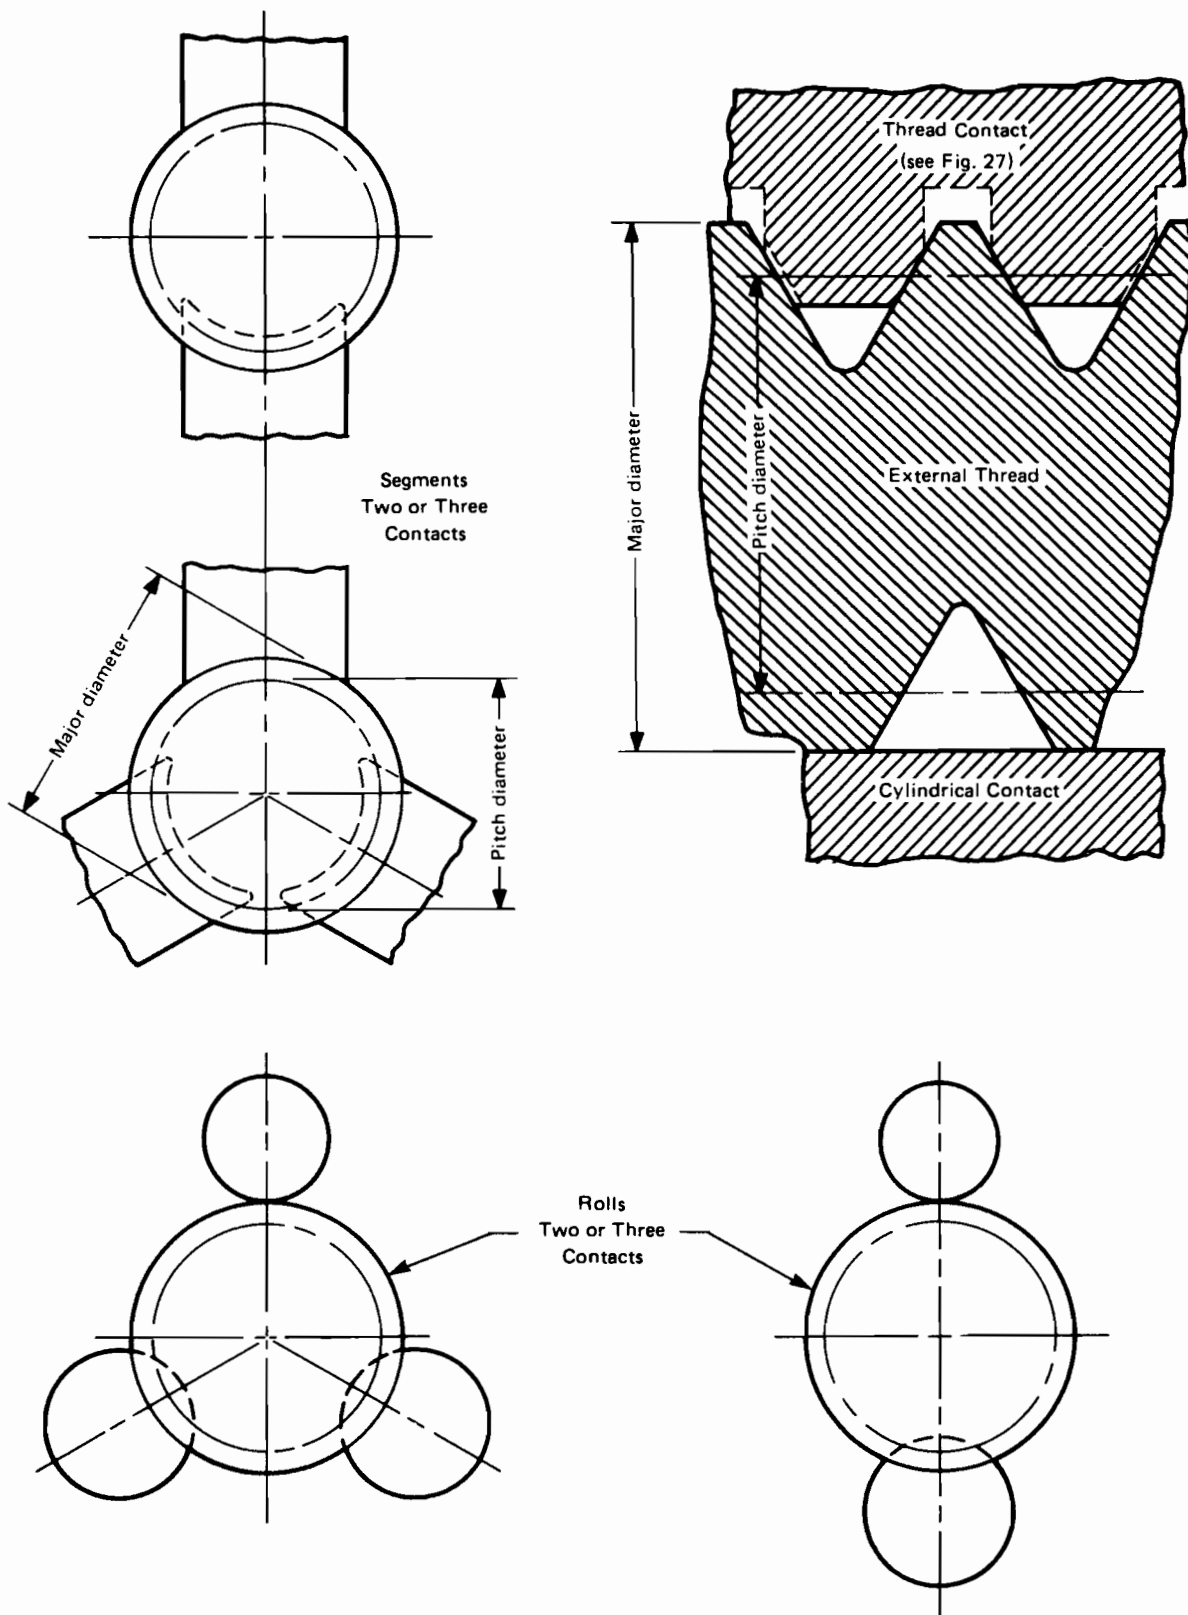

FIG. 29 INDICATING THREAD GAGES — DIAMETER RUNOUT — MAJOR TO PITCH
5.11.3 Thread Form, Thread Crests, and Lead and Half-Angle Variations. The specifications for thread form, thread crests, and lead and half-angle of thread segments and thread rolls are noted in 5.9. Plain contacts have a line bearing on major diameter of product. See Fig. 29.